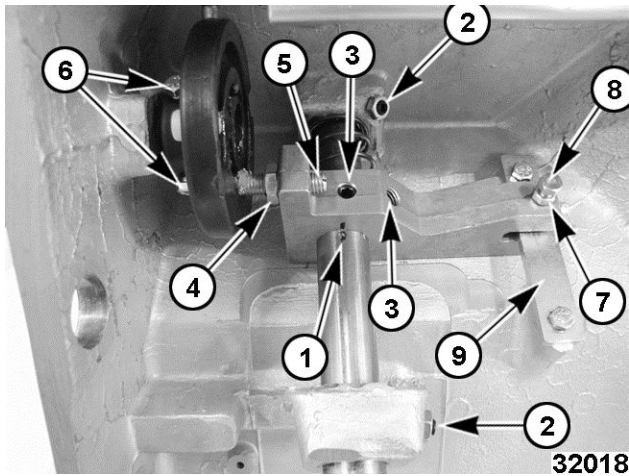

Fig. 32
6. Loosen the jam nut (4, Fig. 32).
7. Back out the cam pin (5, Fig. 32).
8. Loosen the cam assembly set screws (6, Fig. 32).